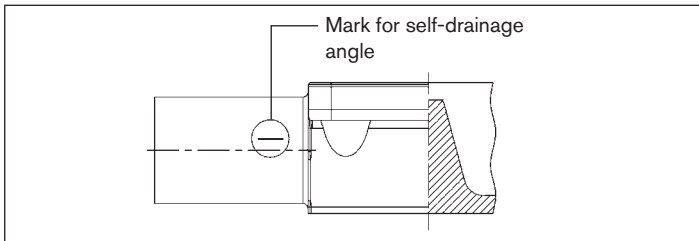

Fig. 26: Mark for the correct installation position
- Observe an inclination angle of $1^\circ - 5^\circ$. Forged and cast bodies feature a mark which must face upwards (12 o'clock position, see “Fig. 26: Mark for the correct installation position”).